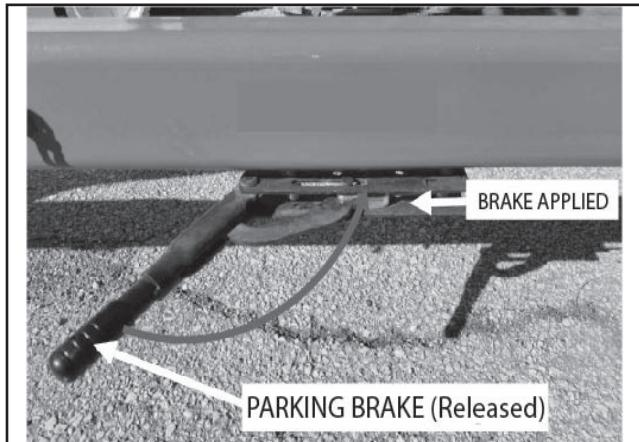

Figure 10.6 – Illustration of a Parking Break
6. Apply the Parking Brake (refer to Figure 10.6).
10. Release the Parking Brake (refer to Figure 10.6).